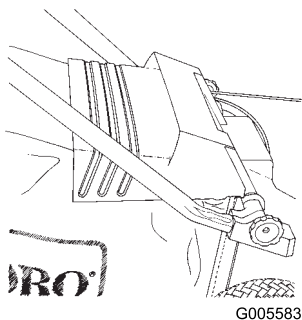

Figure 16
3. Allow the discharge door to close on top of the grass bag (Figure 16).